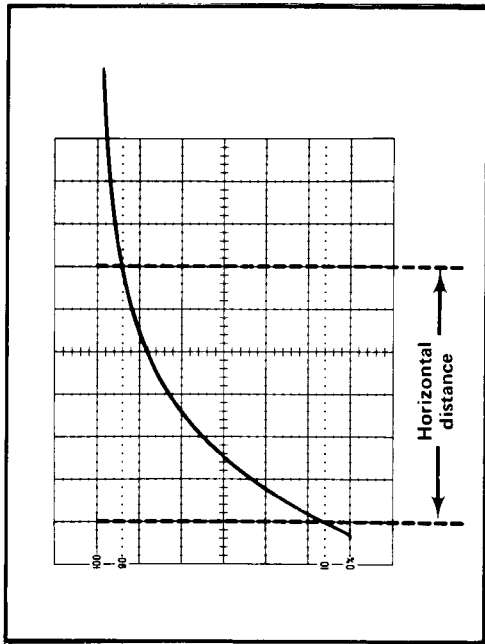

Fig. 5. Measuring risetime.
7. Adjust the horizontal POSITION control to move the 10% point of the waveform to the second vertical line of the graticule (see Fig. 5).
Example. Assume that the horizontal distance between the 10% and 90% points is six divisions (see Fig. 5) and the TIME/DIV switch is set to 1 μs .